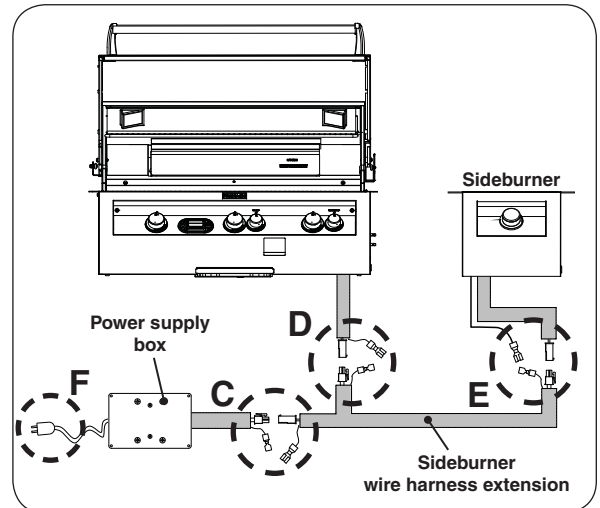

Fig. 13-3 Connect sideburner to grill setup
3. Locate the end of the sideburner wire extension that has two mox and ground connections. Connect the extension (plug) mox connection to the power supply (receptacle) mox connection and ground wires (See Fig. 13-3, **C**).
4. Connect the extension (receptacle) mox to the grill (plug) mox connection and ground wires (See Fig. 13-3, **D**).
5. Connect the opposite end of the extension to the sideburner as shown in Fig. 13-3, **E** (mox and ground wire connections).
6. Reconnect the power cord (see Fig. 13-3, **F**).